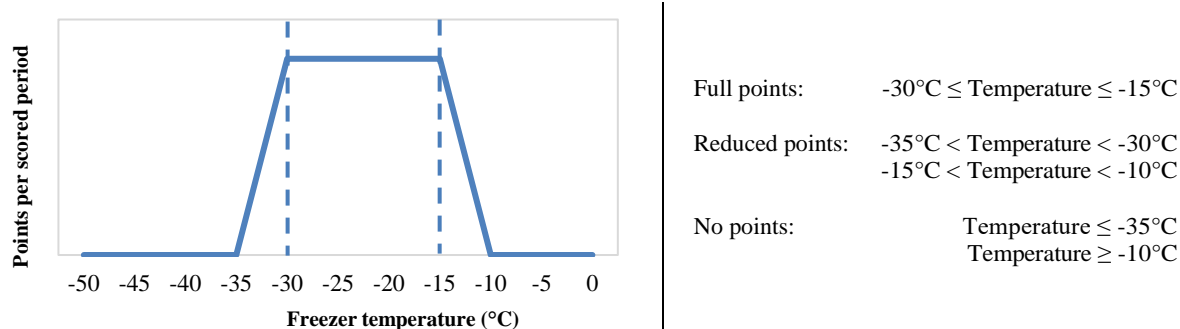

Figure 6 Scoring function for the Freezer Subcontest
- Reduced points are earned if the time-averaged interior freezer temperature is between -35°C and -30°C or between -15°C and -10°C. Reduced points are scaled linearly, as shown in Figure 6.